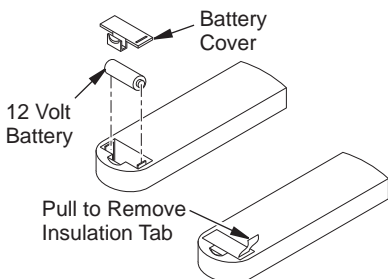

Figure 41 - Installing Battery in Hand-Held Remote Control Unit (SKYTECH)
5. Activate handset battery by removing insulating tab on back (see Figure 41, page 23).